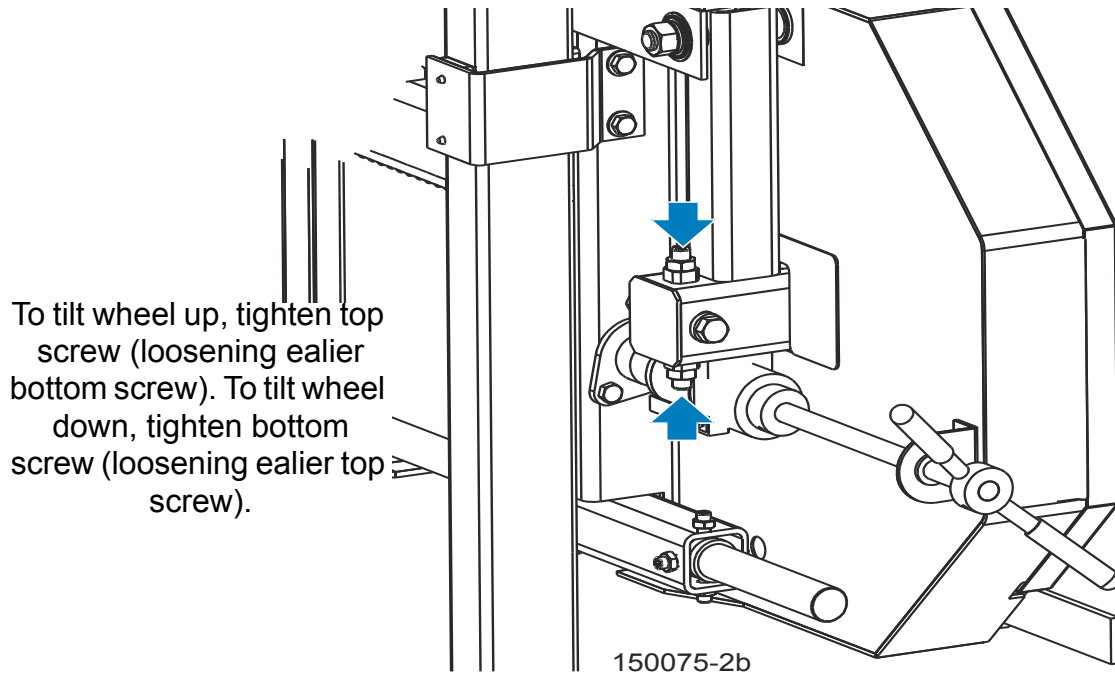

FIG. 3-4
- If the two measurements differ by more than 1/16" (1.5 mm), adjust the vertical tilt of the idle-side blade wheel. See Figure 3-4.
**See Figure 3-4.** To tilt the idle-side blade wheel up, loosen the bottom adjustment screw 1/2 turn. Loosen the nut on the top adjustment screw and tighten the screw. Tighten the top and bottom nuts.